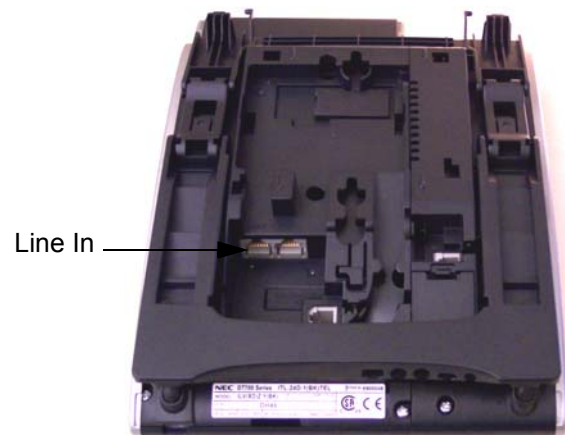

Figure 5-72 Plugging in Line Cord
3. Plug the line cord into the Multiline Terminal as illustrated in Figure 5-72 Plugging in Line Cord.